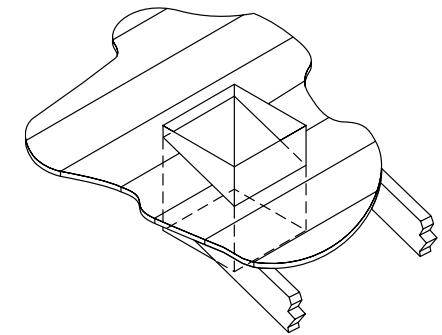

Figure 20
6. Run the Support Box through the roof as shown in Figure 20, and place it so that the bottom of the Support Box protrudes at least 2 inches below the finished ceiling. Align the Support Box vertically and horizontally with a level. Temporarily tack the Support Box in